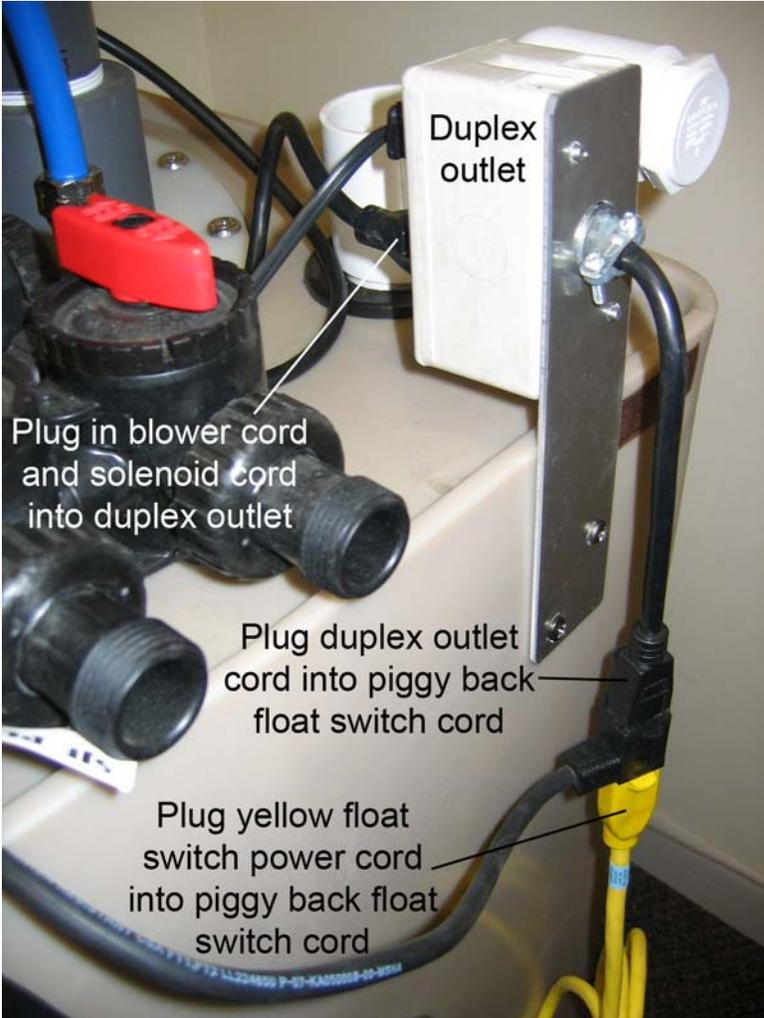

Fig. 3 Duplex Outlet Wiring Connections
10. Plug in the following cords as shown in Fig. 3.
2. Before plugging in the Bubble-Up XP, identify the plug-in cords. See Fig. 3 and 3A